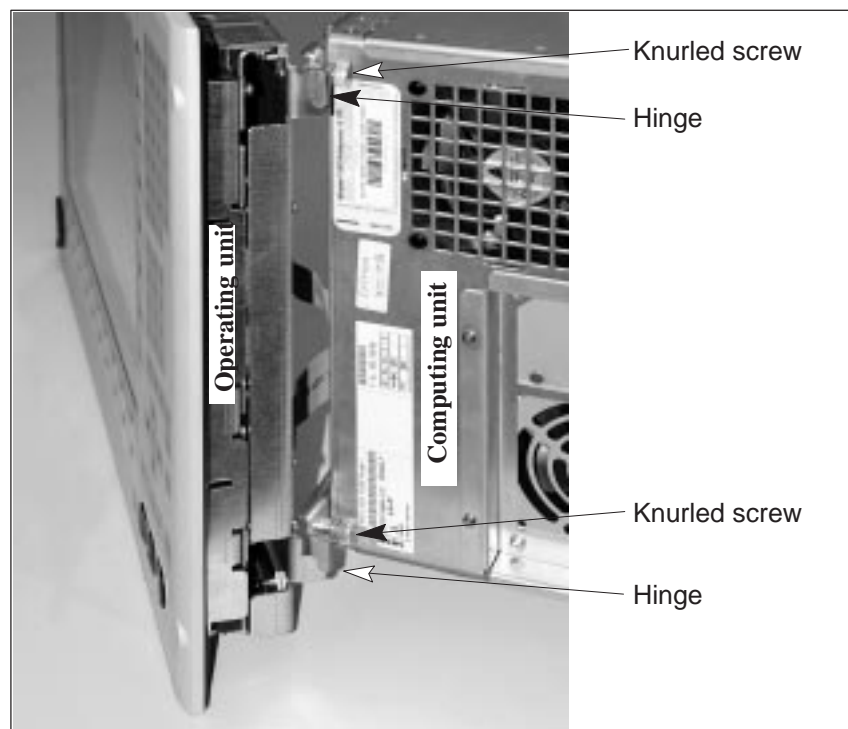

Fig. 3-5 Joining the operating and computing units
3. Hook the computing unit into the two hinges (see Figure 3-5).